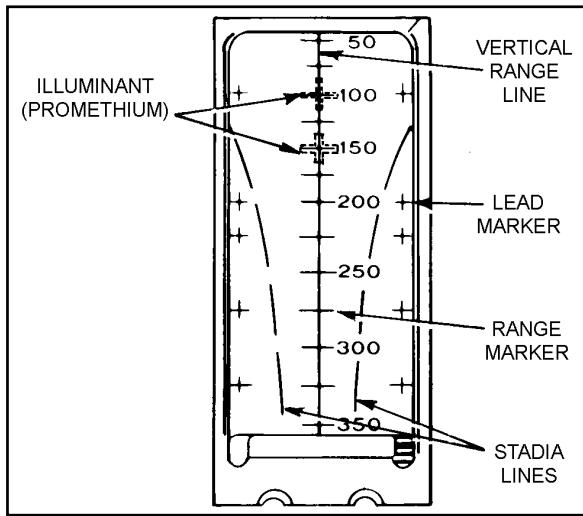
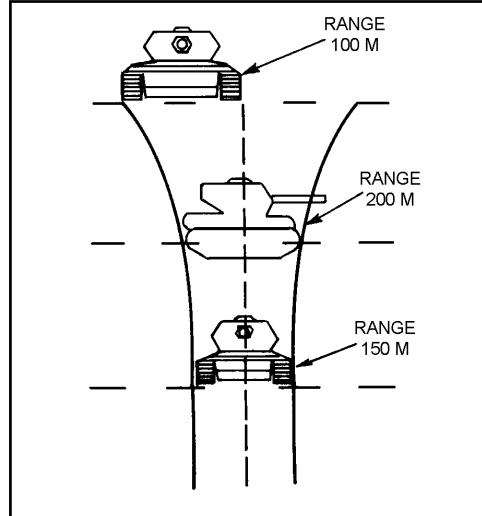

Figure 2-12. M72A1 reticle.
Figure 2-13. Using M72A1 stadia lines to engage targets.
- (4) Use the M72A1 reticle to estimate the range to a 20-foot target such as a tank viewed from the side (Figure 2-12). Place the sight so that the rear and front of a flanking target fit between the curved vertical lines (Figure 2-13). When you read the range from the scale, note that the width of the tank is about one-half the tank's length. This means you can estimate the range to a target, whether it is headed straight toward you or straight away from you, by placing its sides between the curved vertical lines and halving the range shown at that point. The bottom of each vertical line in the center of the reticle